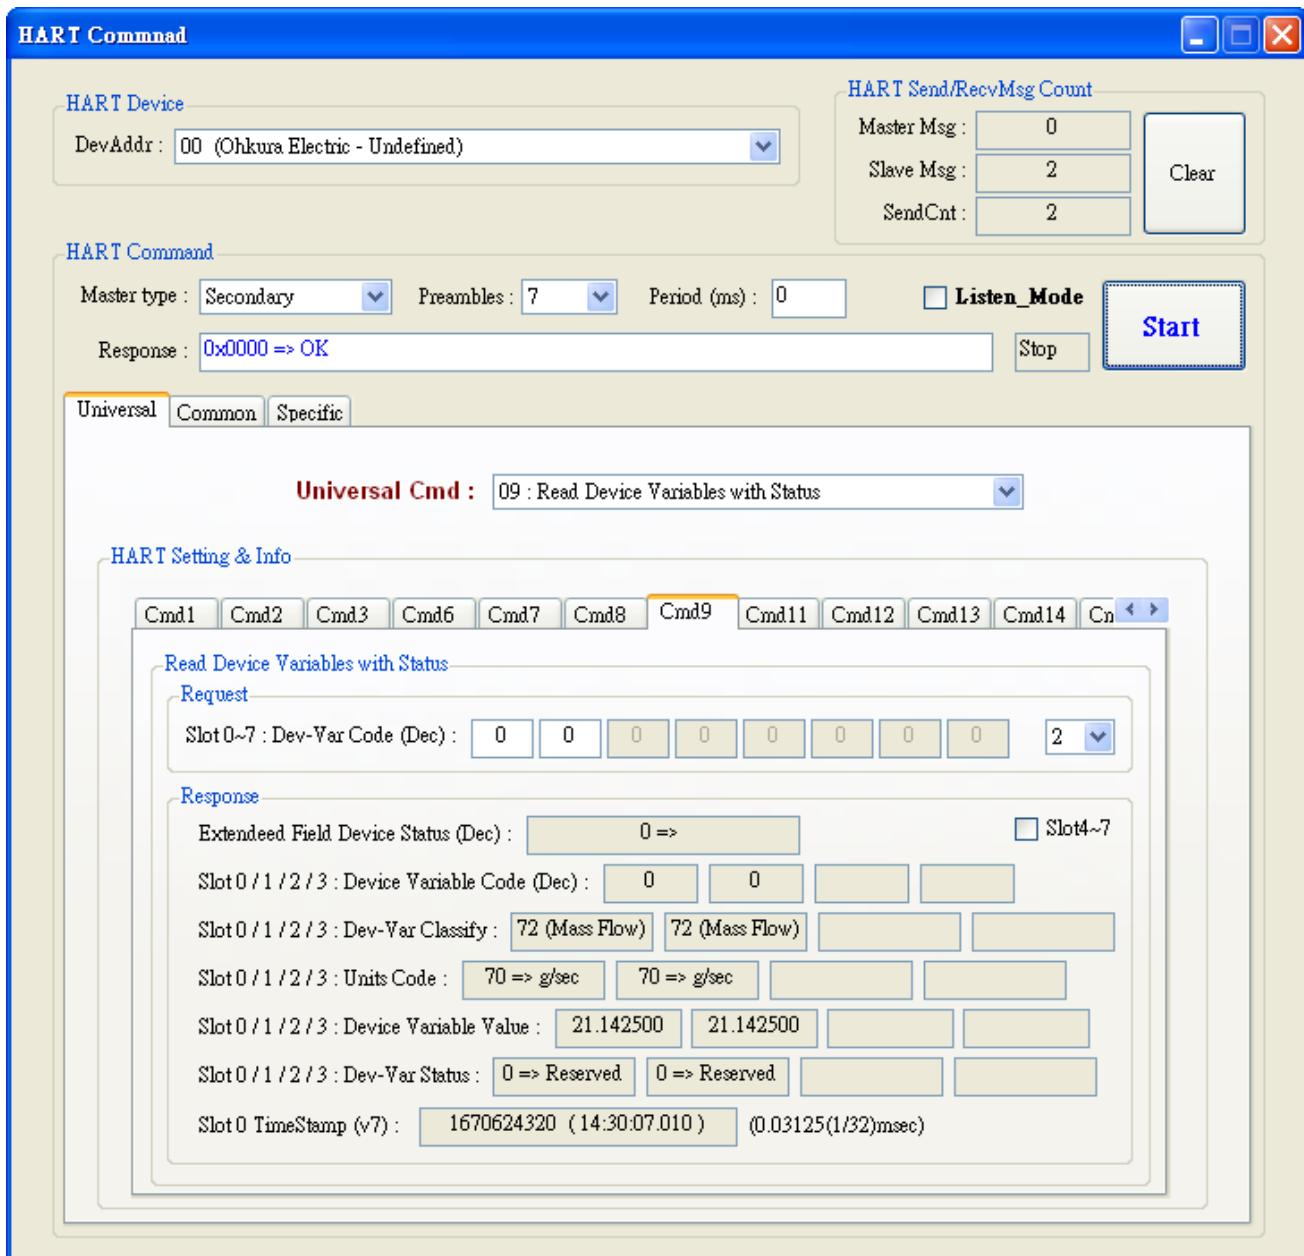

Figure 30-8
- [4] In Figure 30-8, using HART converter (like I-7567) with HC_Tool software to read HART command 9 data of HART device. The data will be the same with Figure 30-7 except the data of Time Stamp.